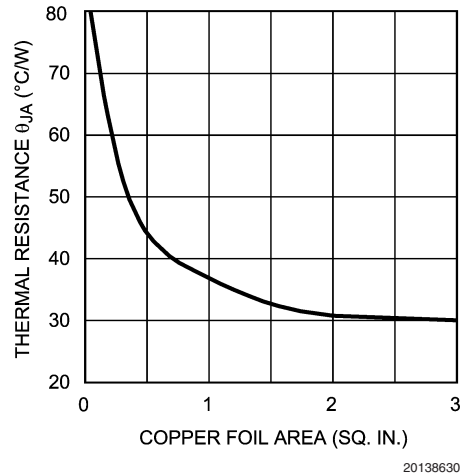

FIGURE 4. Thermal Resistance (typ) for 7-L TO-263 Package Mounted on 1 oz. (0.036 mm) PC Board Foil
5. Choose a copper area that will guarantee the specified $T_{J(MAX)}$ for the calculated θ_{JA} . θ_{JA} as a function of copper area in square inches is shown in *Figure 4*.
4. Finally, using this value for θ_{JA} choose the minimum value of copper area from *Figure 4*.